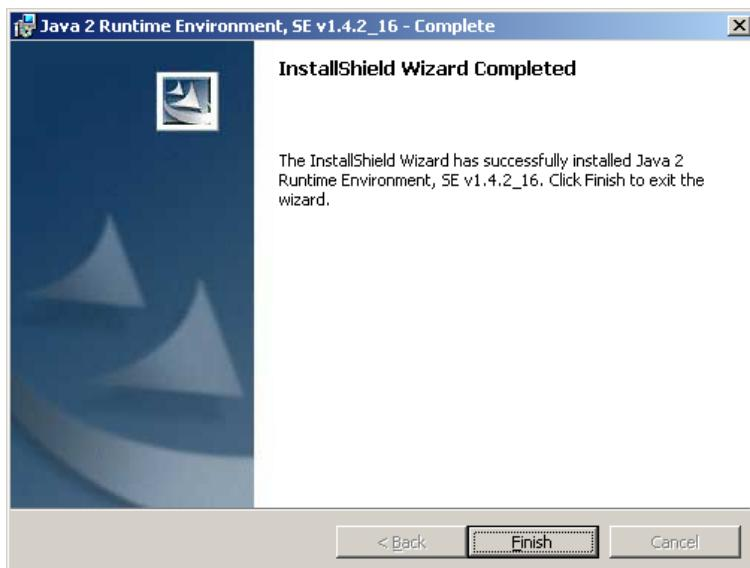

Figure 2-6: Java 2 Runtime Environment Installation Complete
6. When the Java Runtime application has been installed, the wizard displays an InstallShield Wizard Complete message see Figure 2-6.